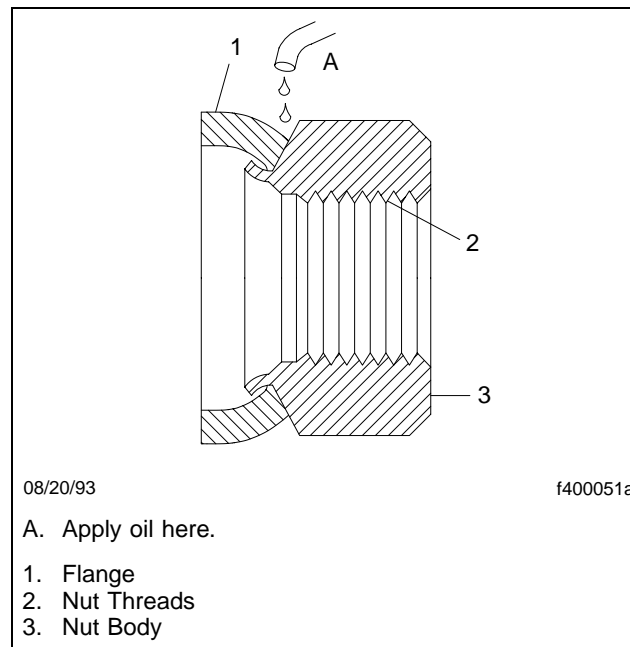

Fig. 34, Lubricating a Two-Piece Flange Nut
2. Apply a few drops of light engine oil to the wheel studs and the area between the body and the flange of each two-piece flange nut. See **Fig. 34**. Wipe off any excess oil.